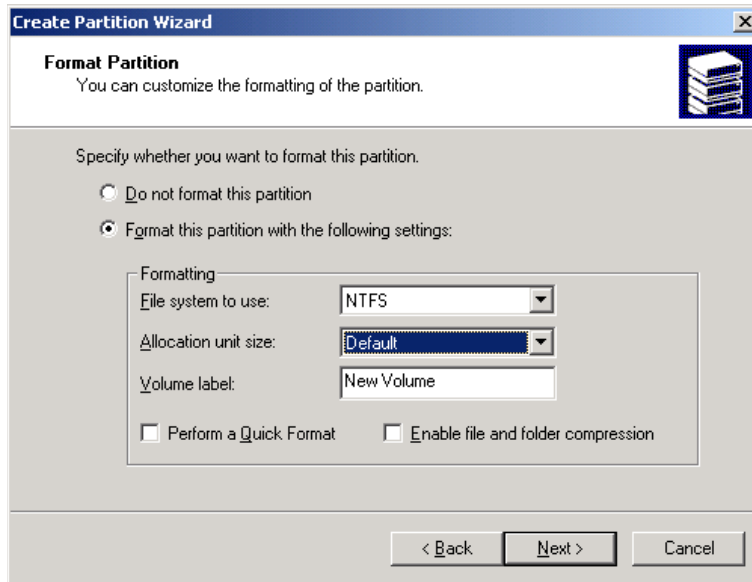

Figure 3.6 Format Partition Dialog Box
6. Click Next. The Format Partition dialog box displays (see Figure 3.6).